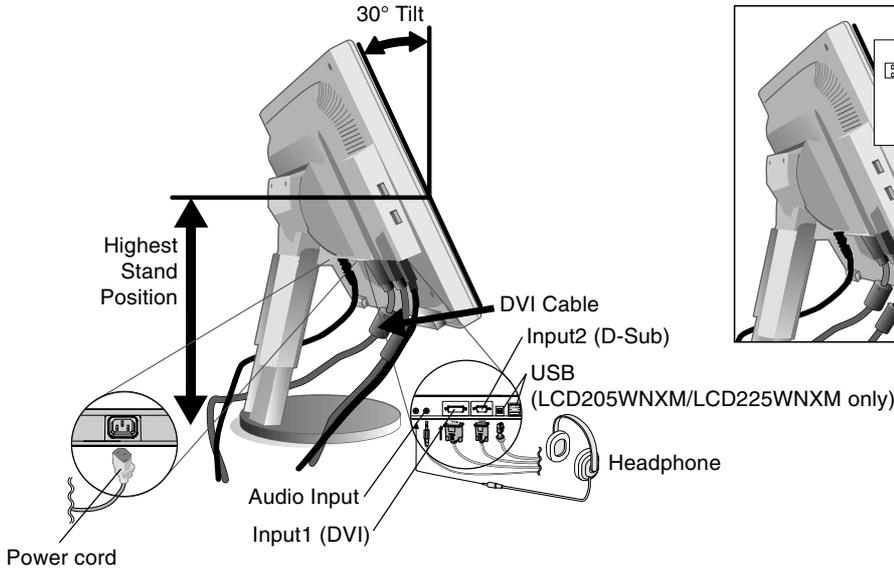

Figure B.1
- Place hands on each side of the monitor to tilt the LCD panel 30-degree angle and lift up to the highest position (**Figure B.1**).
- Connect all cables to the appropriate connector on the back of the monitor (**Figure B.1**). Using the USB cable, connect the B type connector to the USB upstream port on the bottom of the monitor and A type connector to the downstream port on the computer (**Figure C.1**). If you can use the cord from the USB device, use one of the downstream ports on the side or bottom of the monitor. Connect Headphones (not included) to the appropriate connector at the rear side of the monitor, if desired (**Figure B.1**).